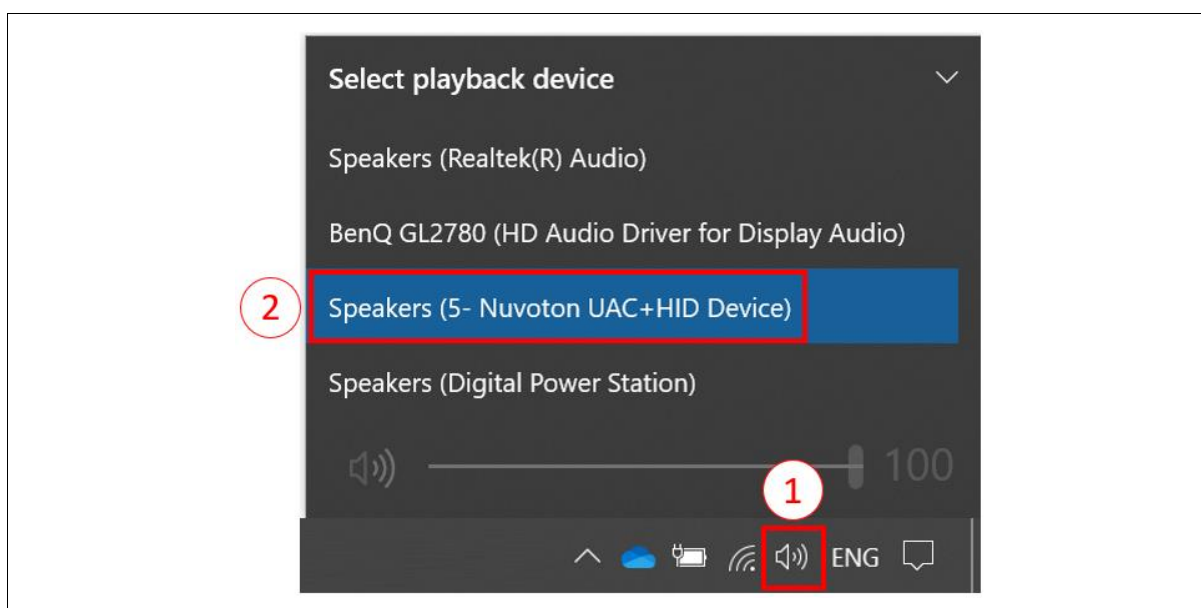

Figure 2-6 PC Audio Device Setting
4. Select the audio device on the PC as "Nuvoton UAC+HID Device". For example, under Win10 system, users can click the speaker icon on the bottom-right corner of the desktop and choose the device "Nuvoton UAC+HID Device," as shown in Figure 2-6. This will select "Nuvoton UAC+HID Device" as the current playback device.